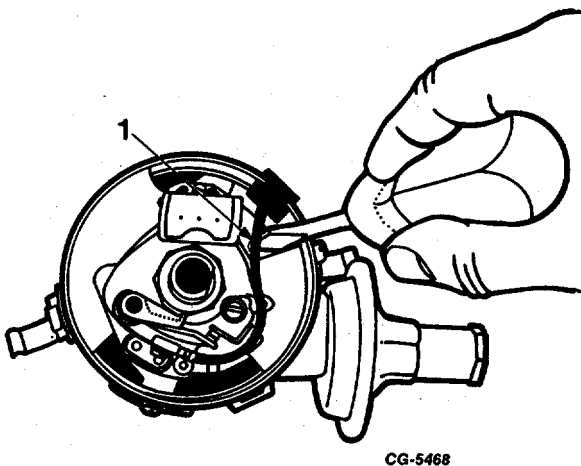

Fig. 41. Adjusting Advance Spring Tension
- b. Increase distributor speed, pausing at each specified test speed to note the amount of advance that is occurring. If advance at specified test speeds is not within specified limits, adjust advance spring tension by bending the spring posts (Figure 41). Bend post(s) toward distributor shaft to decrease tension (increase advance) and away from shaft to increase tension (decrease advance).